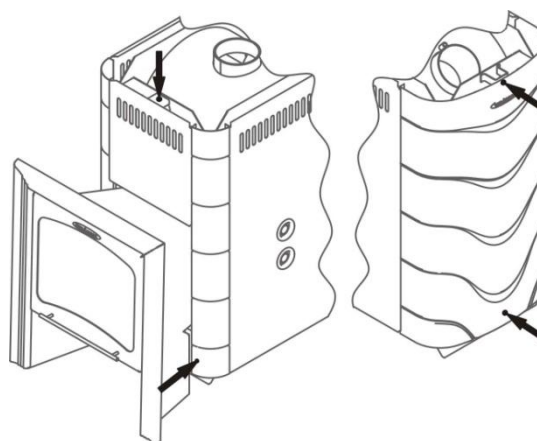

Figure 9. «Angara 2012» sauna stove convector disassembling
2. Remove the convector by unscrewing 5 self-drilling screws (figure 9);